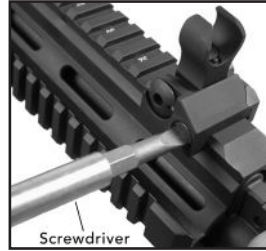

Fig. 6 – Installing front TROY sight Fig. 7 – Tightening front TROY sight
1. Unscrew clamping assembly and place the sights at the desired location on the Picatinny rail (Fig. 6).